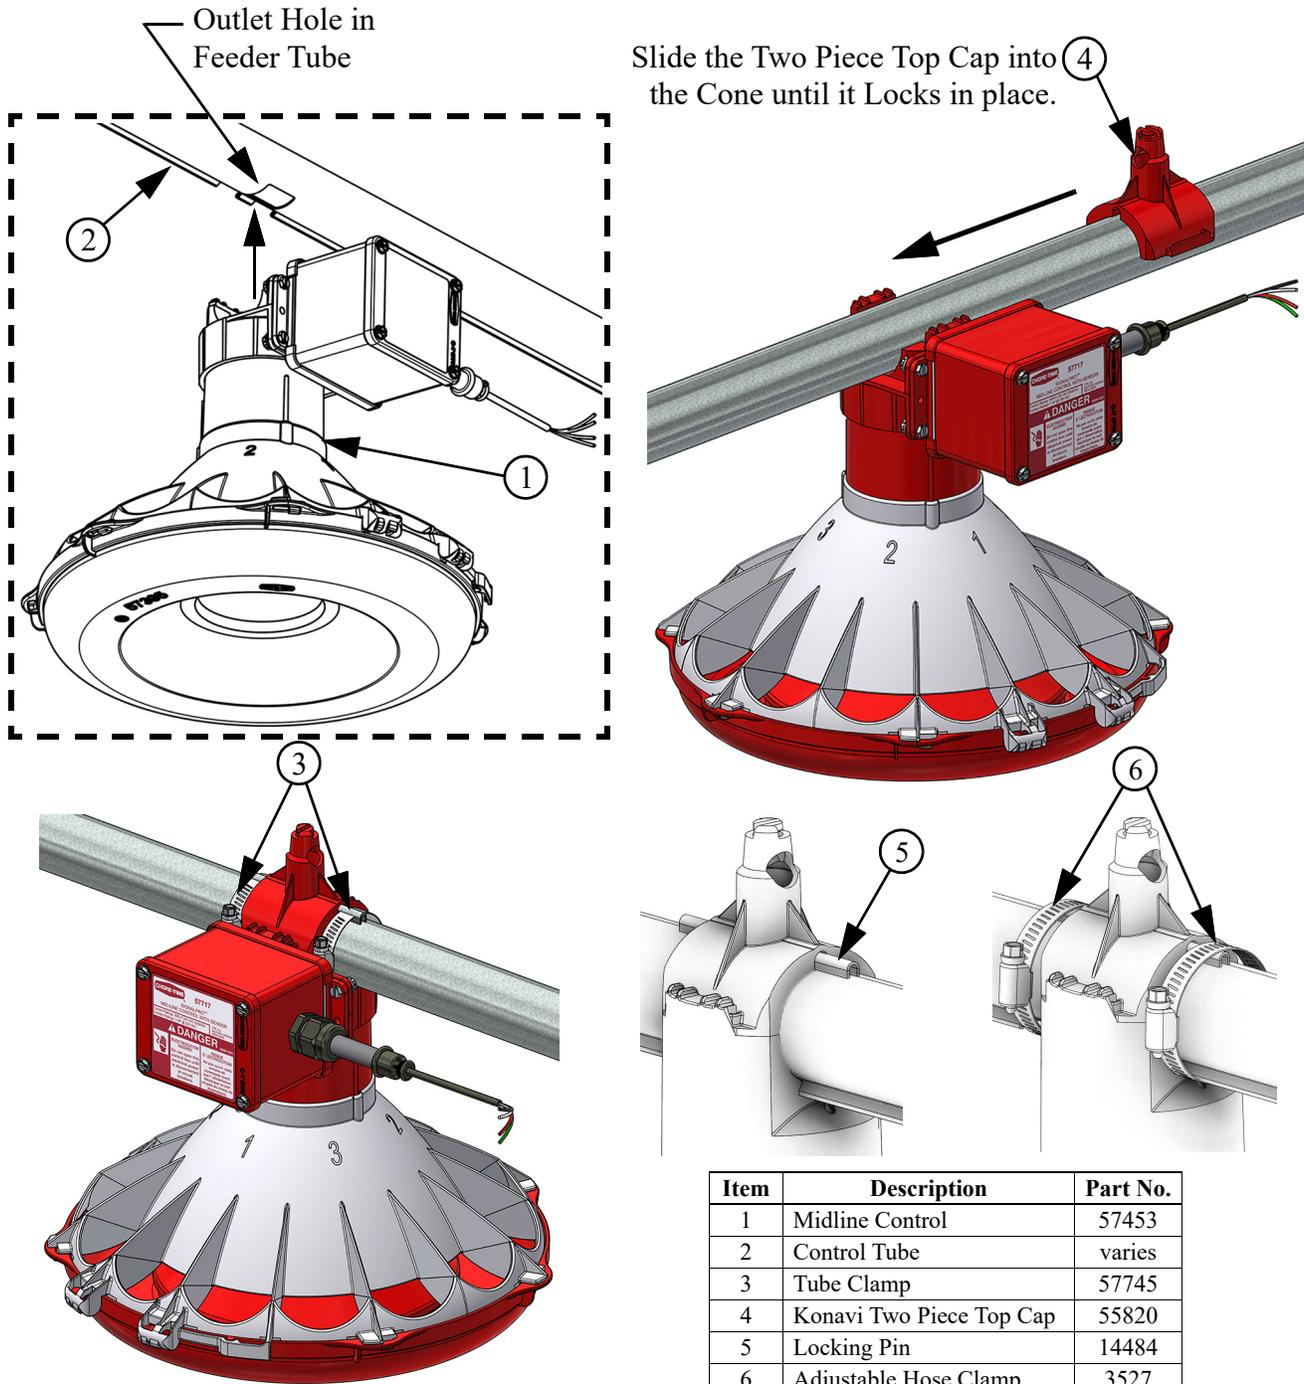

Figure 35. Installing the Mid-Line Control with Proximity Sensor
1. Attach the Mid-Line Control (**Item 1**) to the Control Tube (**Item 2**) as shown in **Figure 35**.